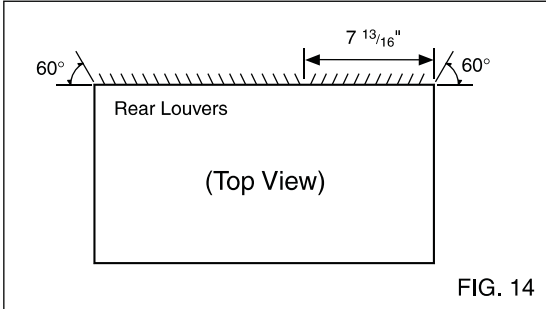

FIG. 14
- 1 Redirect the louvers at the back of the wall sleeve to 60° angle as shown in the FIG 14. The use of pliers is recommended.